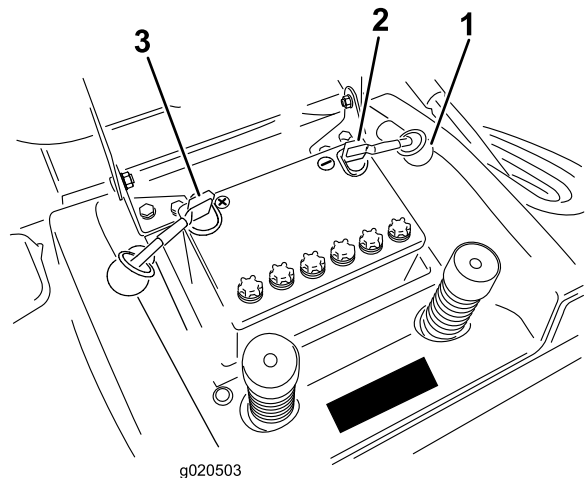

Figure 35
7. Disconnect the negative (black) ground cable from the battery post (Figure 35).
9. Disconnect the positive (red) cable from the battery post (Figure 35).
1. Place the battery into the chassis with the battery posts toward the rear of the machine (Figure 35).
3. Using the bolt and wing nut, connect the positive (red) cable to the positive (+) battery post (Figure 35). Slide the rubber cover over the battery post.
4. Using the bolt and wing nut, connect the negative (black) cable to the negative (–) battery post (Figure 35). Slide the rubber cover over the battery post.